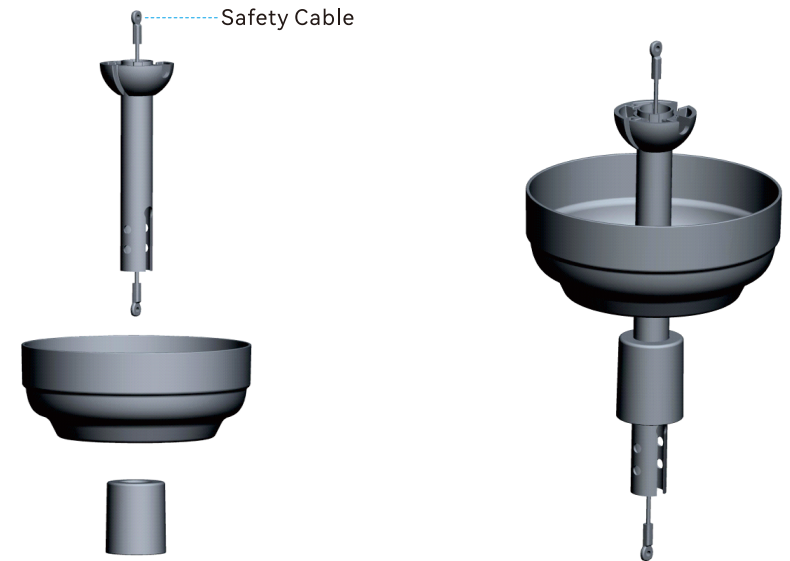

Fig 5.1
- 5.1 Assemble downrod as pictured in Fig 5.1. Insert the downrod through the canopy and wiring cover.